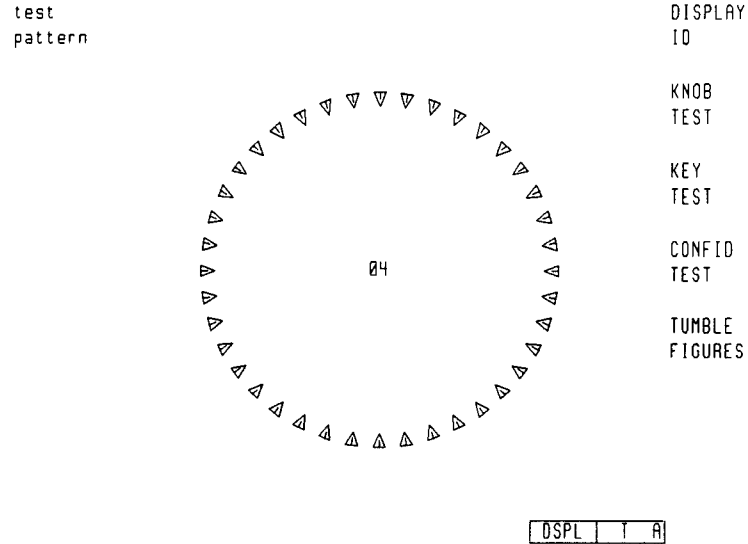

Figure 5-10. Knob Test Display
3. Press the **KNOB TEST** softkey. See Figure 5-10.